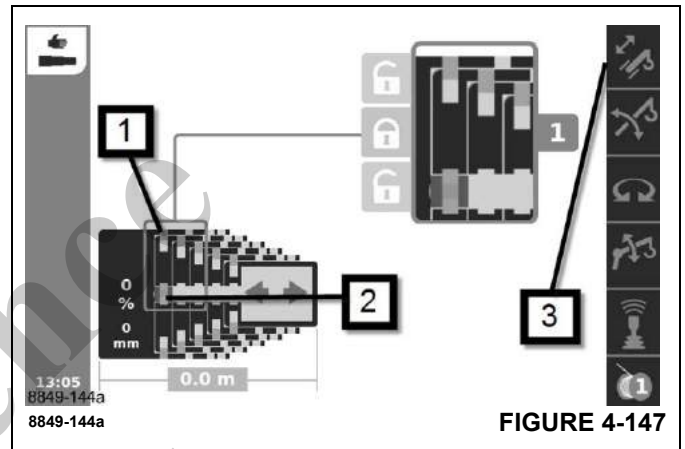

FIGURE 4-147
- Telescoping mechanism on – symbol (3), (Figure 4-147) green.
- Telescopic section unlocked – symbol (1) red.
- Telescoping cylinder locked – symbol (2) green.